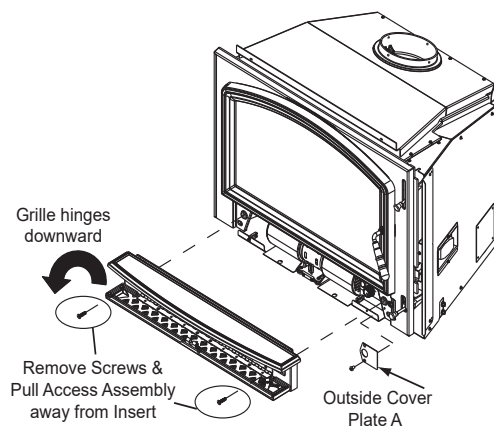

Figure 18.1
1. Swing grille down to expose the two screws (**Figure 18.1**).